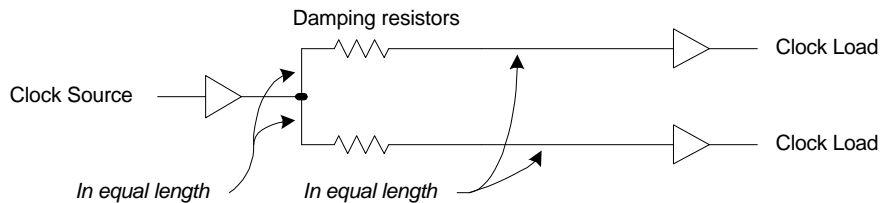

Figure 2-25. Series Termination for Multiple Clock Loads
- Series terminations (damping resistors) are needed for all clock signals (typically 10 ohms to 33 ohms). When two loads are driven by one clock signal, the series termination layout is shown in Figure 2-25. When multiple loads (more than two) are applied, a clock buffer solution is preferred.